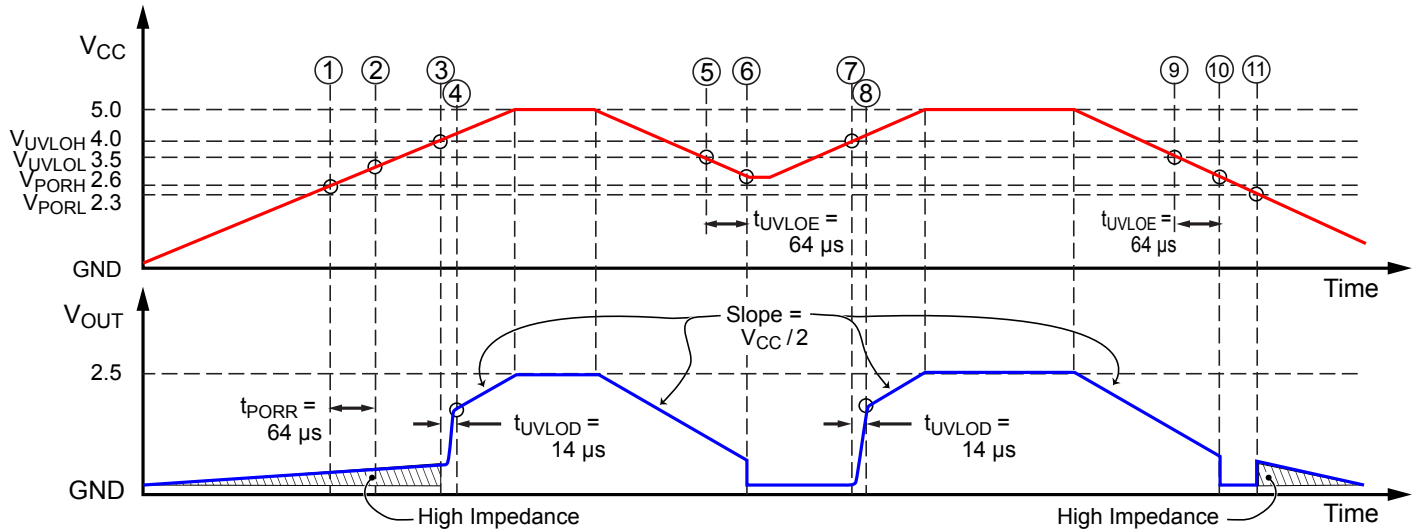
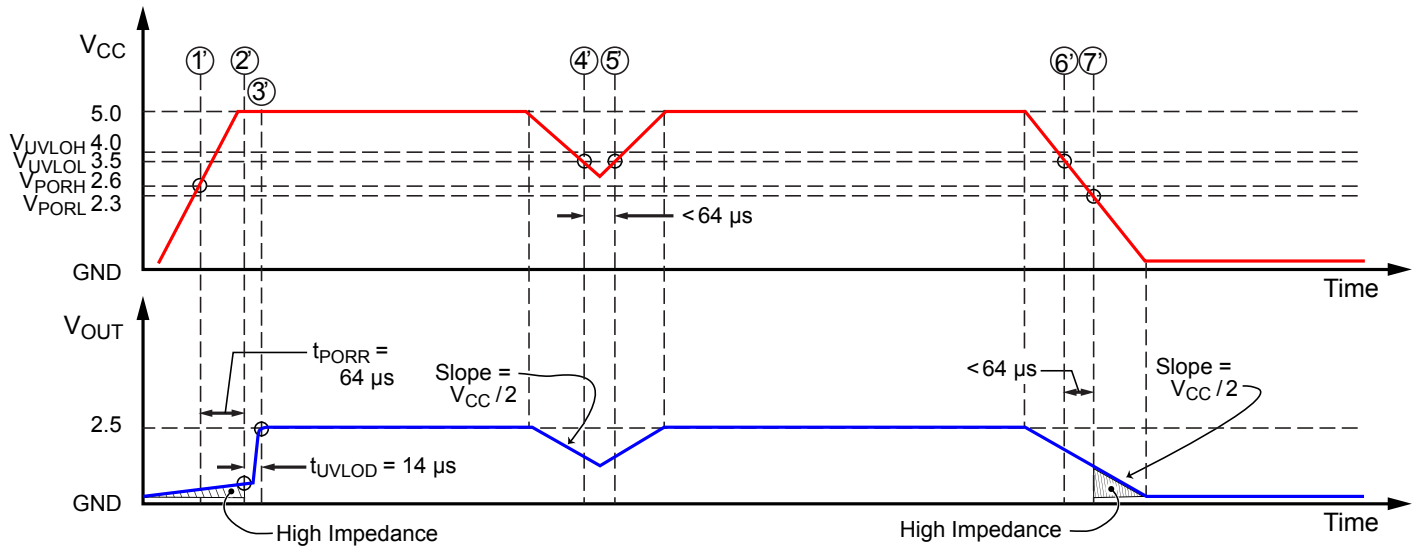

Figure 4: POR and UVLO Operation: Slow Rise Time case
Figure 5: POR and UVLO Operation: Fast Rise Time case
- **Power-Up.** At power-up, as V_{CC} ramps up, the output is in a high impedance state. When V_{CC} crosses V_{PORH} (location [1] in Figure 4 and [1'] in Figure 5), the POR Release counter starts counting for $t_{PORR} = 64 \mu s$. At this point, if V_{CC} exceeds $V_{UVLOH} = 4 V$ [2'], the output will go to $V_{CC} / 2$ after $t_{UVLOD} = 14 \mu s$ [3']. If V_{CC} does not exceed $V_{UVLOH} = 4 V$ [2], the output will stay in the high impedance state until V_{CC} reaches $V_{UVLOH} = 4 V$ [3] and then will go to $V_{CC} / 2$ after $t_{UVLOD} = 14 \mu s$ [4].